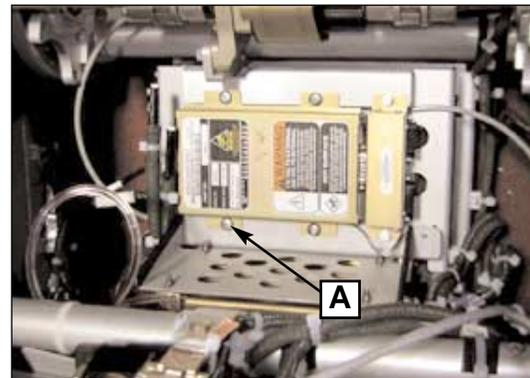

FIG. 315:
- (1) Unplug all cables connectors (including seat-to-seat cables).
- (2) *DBL SEAT*: Turn 1/4 four screws (A) and, by acting on the two nylatches too, remove ISPS with its bracket support. (see fig. 315)